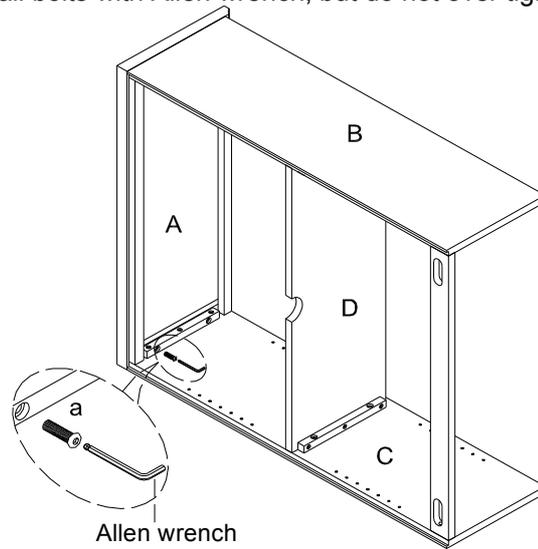

Fig.5
4. Attach the top panel (A) to the side panels (B & C) aligning the pre-drilled hole with exposed dowels and using bolt (a), securely tighten all bolts with Allen wrench, but do not over tighten the bolts. (Fig.5).